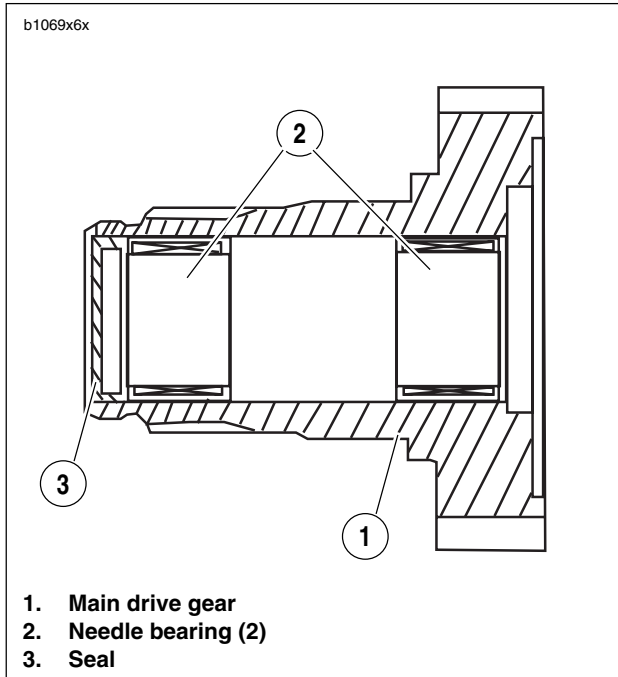

Figure 6-67. Main Drive Gear Assembly
3. See Figure 6-67. From inside case tap out seal at end of mainshaft 5th gear. Discard seal.